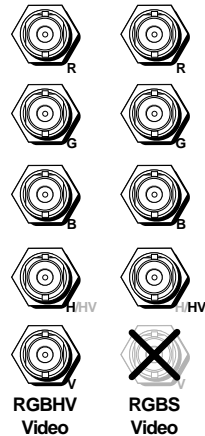

Figure 7. BNC Output Connections for RGBHV and RGBS Video
- ④ **Video output BNC connectors** — Connect RGB video displays to these two sets of female BNC connectors. Figure 7 shows how to connect the various video formats.